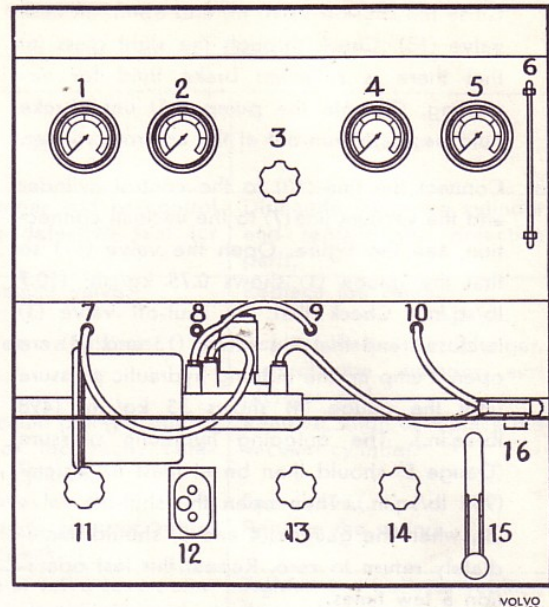

Fig. 42. Connections for testing.
For complete testing, a test bench is required together with a control cylinder of a type as shown in Figs. 42 and 43. The purpose of the control cylinder is to enable a stroke to be obtained corresponding to that which would occur with the servo cylinder installed in the vehicle.
1. Connect the vacuum line (7, Fig. 42) to the servo brake cylinder hydraulic inlet. When doing this, brake fluid should naturally be emptied from the cylinder. The hydraulic connections have a 3/8" x 24 UNF thread. Plug the hydraulic outlet. Start the vacuum pump and open the vacuum valve (11). When a vacuum of 0.75 kg/cm² (10.7 lb/sq.in.) has been reached (Gauge 1), close the valve (11). The servo brake cylinder should maintain a vacuum of at least 0.7 kg/cm² (10 lb/sq.in.) for five seconds. Then disconnect the vacuum line and open the hydraulic outlet.
2. Connect the servo cylinder hydraulic inlet to the line (9) and its hydraulic outlet to the control cylinder (16).